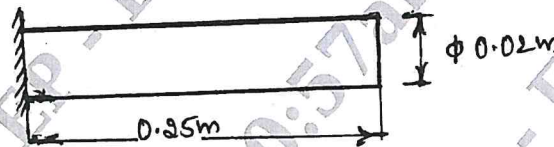

Fig.Q.10(b)
b. Evaluate eigen values of longitudinal vibration of the constrained uniform circular bar shown in Fig.Q.10(b). Take minimum two elements and  $E = 210 \text{ GPa}$  and  $\rho = 7860 \text{ kg/m}^3$ . (10 Marks)